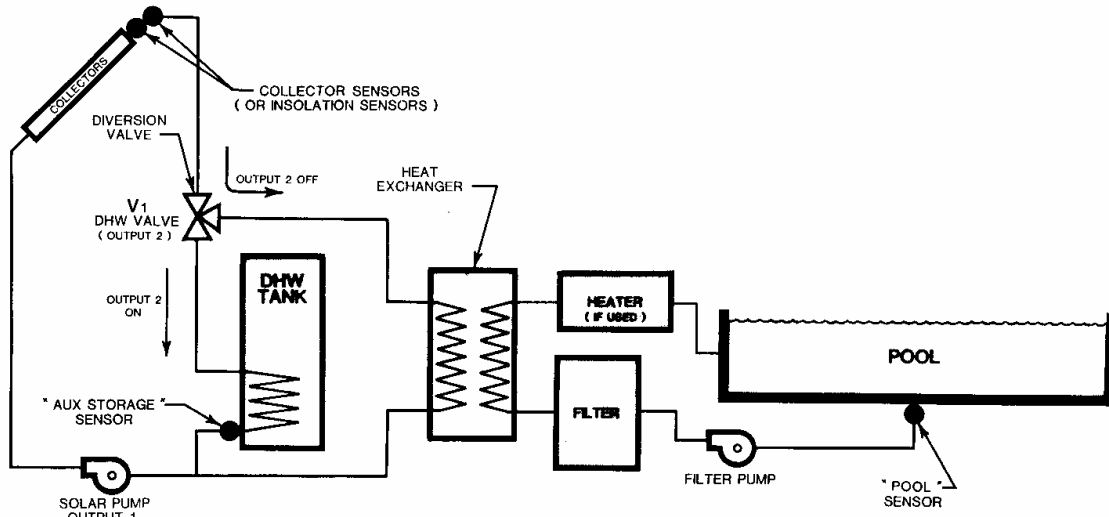

FIGURE 6-2, PLUMBING SCHEMATIC, POOL/DHW COMBINATION SYSTEM WITH ONE COLLECTOR ARRAY.
Figure 6-2 is a typical plumbing system for a POOL/DHW combination system having one (1) collector array to solar heat both the pool and DHW storage. For this system configuration the Model C35-1S-2S(DHW)-3T must be field modified by installing printed circuit board jumpers J1 and J2. See section 5 for a description of control operation.